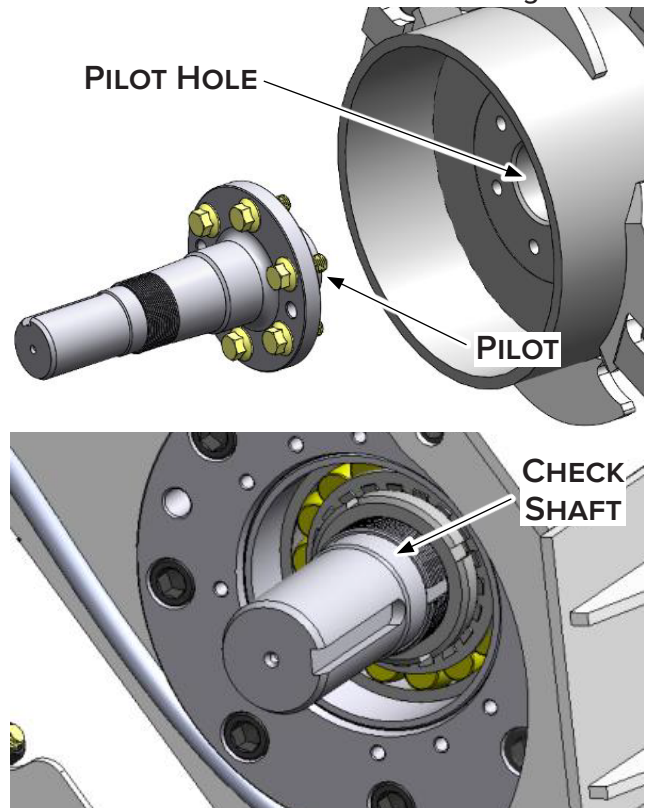

Figure 30
4. Before installing the bearing housing covers, inspect the shaft run out. Maximum run out is ± 0.015 inches. See "Check Shaft" in Figure 30.